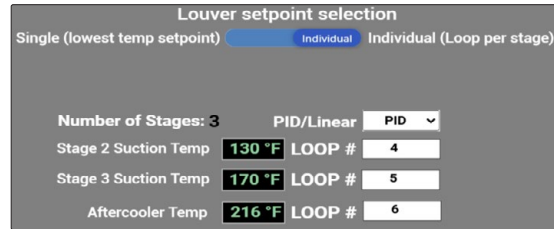

Figure 22
- b. The toggle is blue when **Individual** is selected. See *Figure 22*. To configure multiple temperature setpoints: